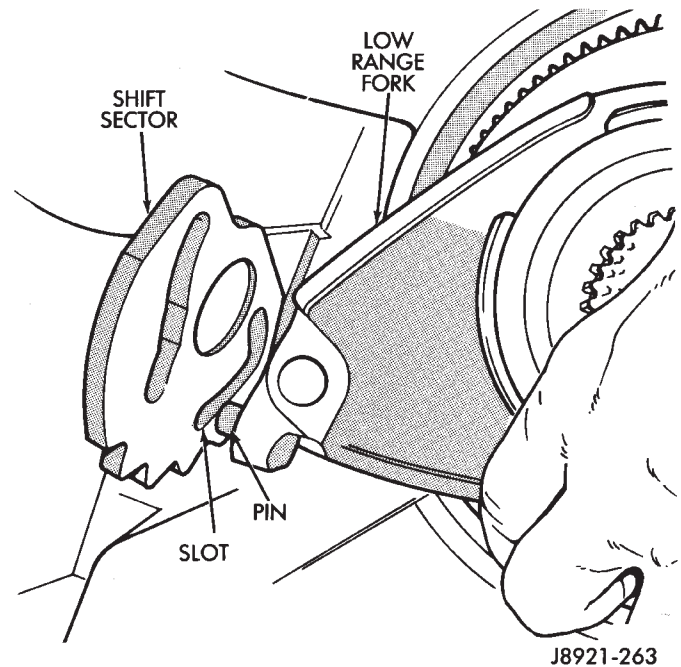

Fig. 29 Disengage Low Range Fork
(37) Slide low range fork pin out of shift sector slot (Fig. 29)